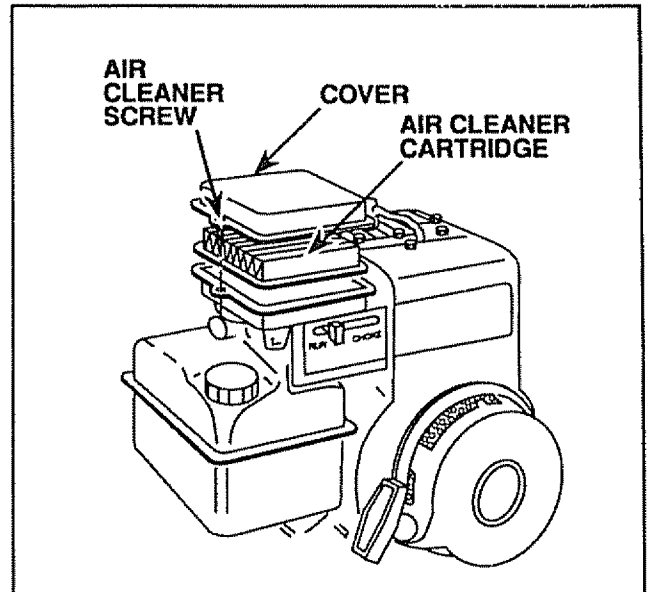

FIGURE 22
- Loosen Air Cleaner Screws, one on each side of Cover (Fig. 22).